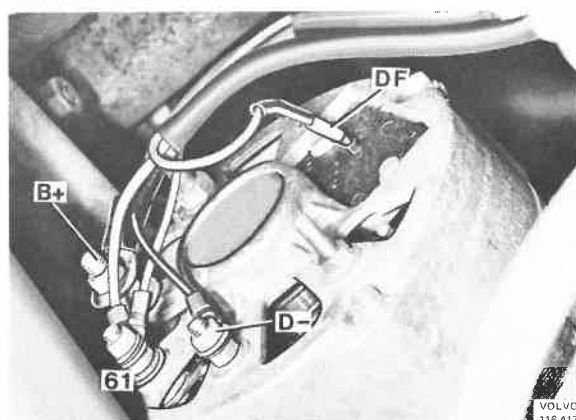

Fig. 32-23. Alternator cable terminals
6. Tighten up the bolt on the cylinder head and connect the cables to their terminals, see Fig. 32-23.